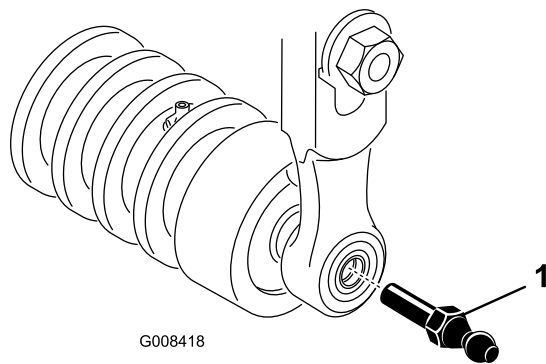

Figure 10
3. Thread a ball stud into each end of the cutting unit front roller (Figure 10).